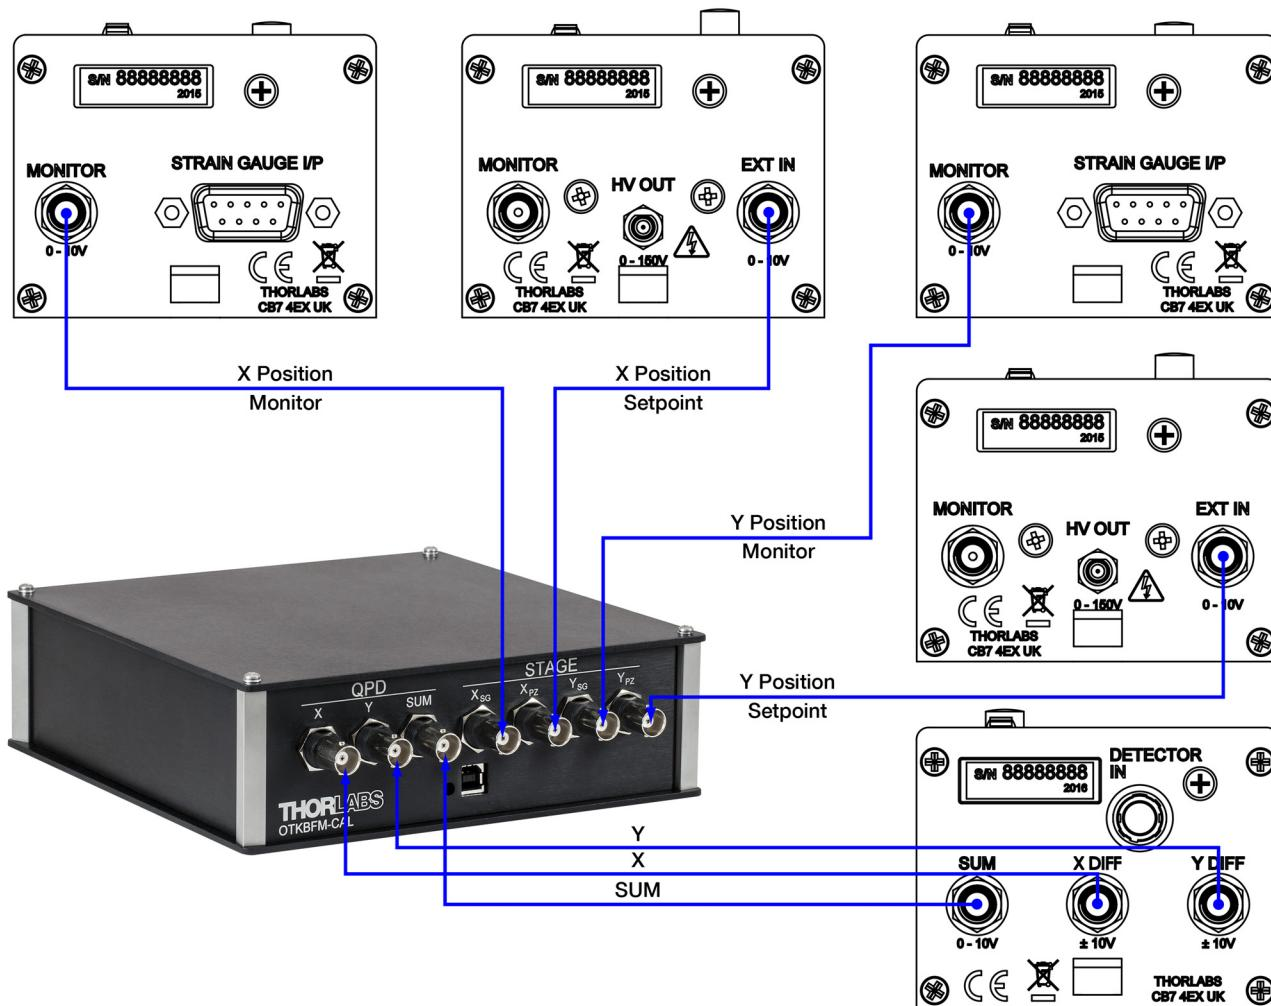

Figure 3 Connections Between OTKBFM-CAL Control Box and Piezo/Strain Gauge Controllers
3. Use the SMA-to-BNC cables (included) to connect the OTKBFM-CAL to the K-Cube piezo and strain gauge controllers. See Figure 3 below for details.